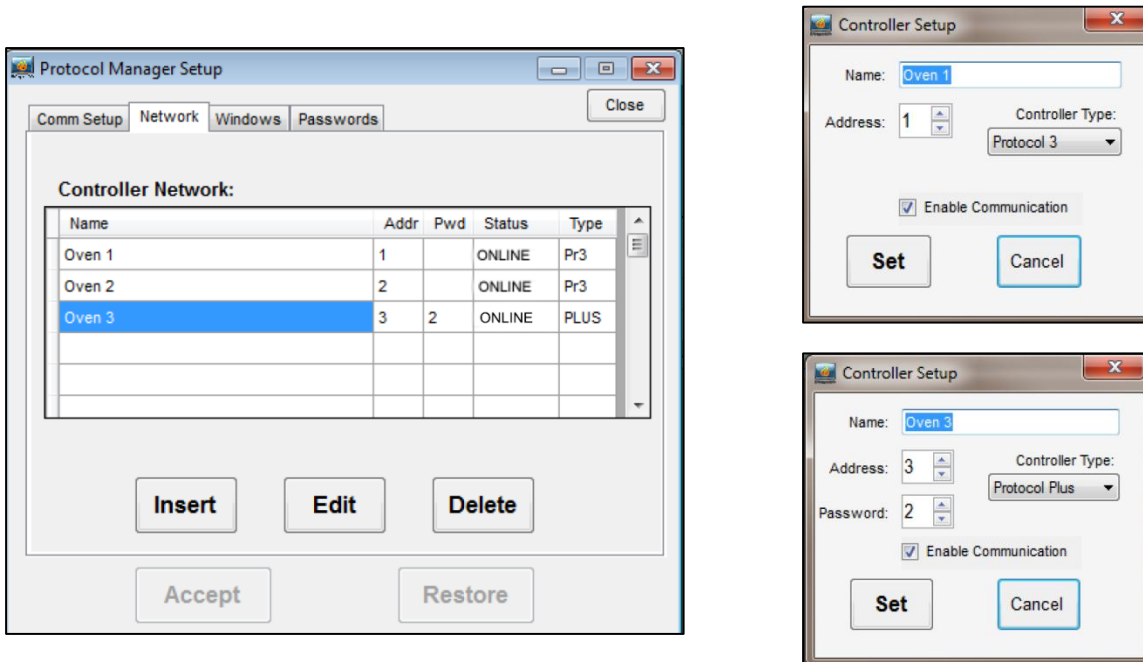

Figure 37. Check network controller parameters.
3. Click on **Network** and highlight the desired oven. Click **Edit**. Make sure addresses on the Protocol Manager screens match the addresses on each controller (Figure 37). For Protocol Plus controllers, ensure the password is set to the default (Level 2). **Enable Communication** should be enabled. Click **Set** when complete to save changes (if any).